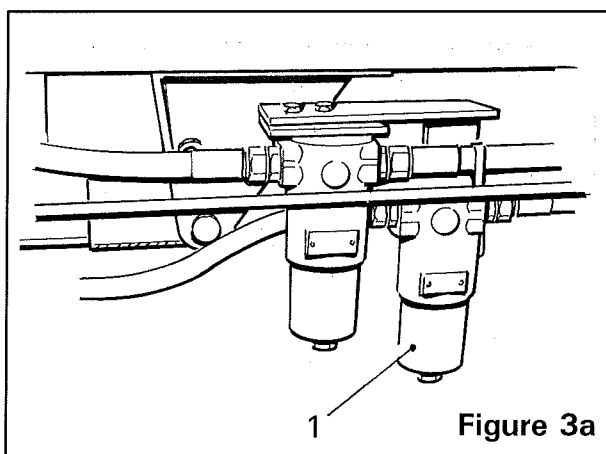

Figure 3a
The pressure filter element (*item 1, figure 3a*) should be replaced after the first 50 hours running time and then every 500 hours or annually thereafter.